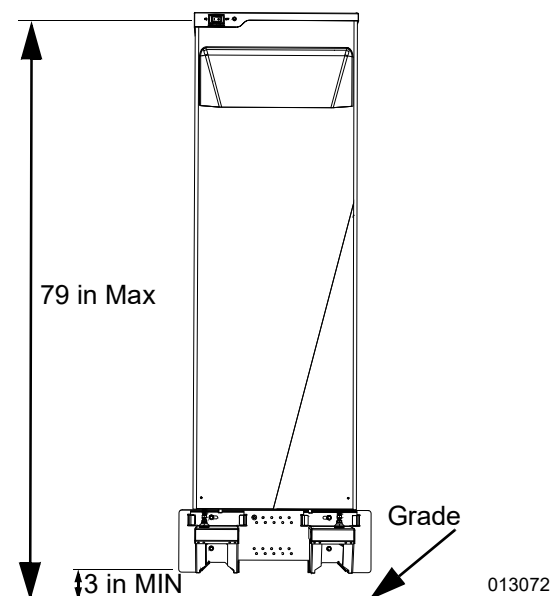

Figure 1. Foot Bracket Install Height
1. See **Figure 1**. Install the foot bracket bottom edge to a minimum height of 3 in and a maximum height of 6 in to keep the Battery Disconnect Switch at a maximum height of 79 in above grade.